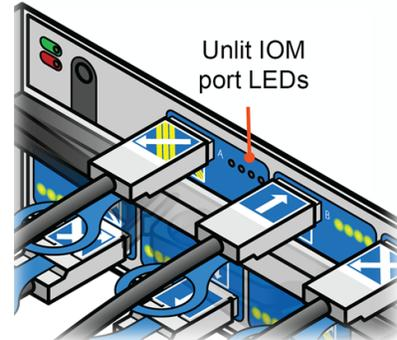

Figure 5-1. Unlit IOM Port LEDs
- Storage shelf IOM port LEDs are not lit or partially lit. See Figure 5-1.